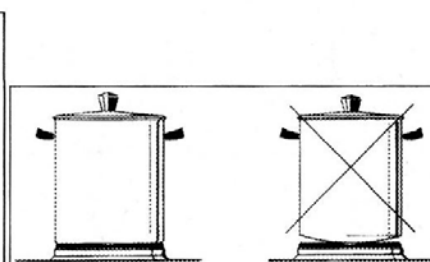

Fig. 14
- Use pans with a flat bottom and in thick metal ( see Fig. 14 ).